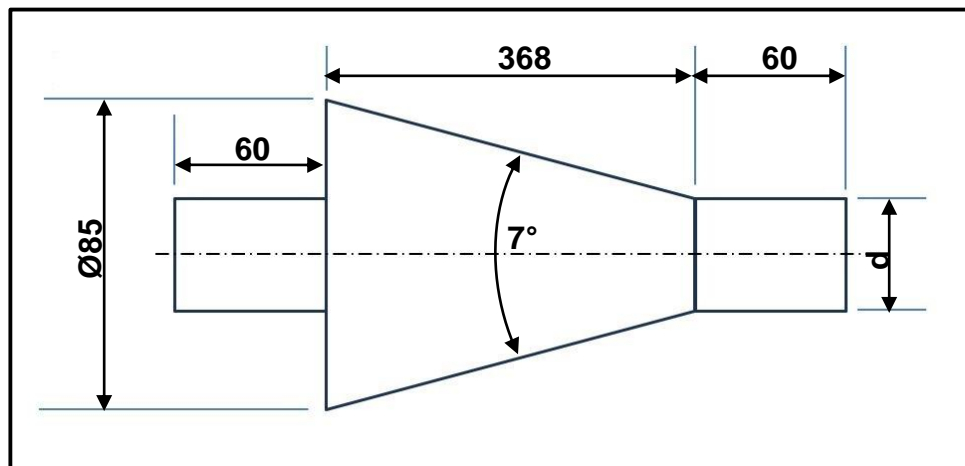

FIGURE 5.2
- 5.2 FIGURE 5.2 below shows a taper with an included angle of 7° that should be machined between centres.